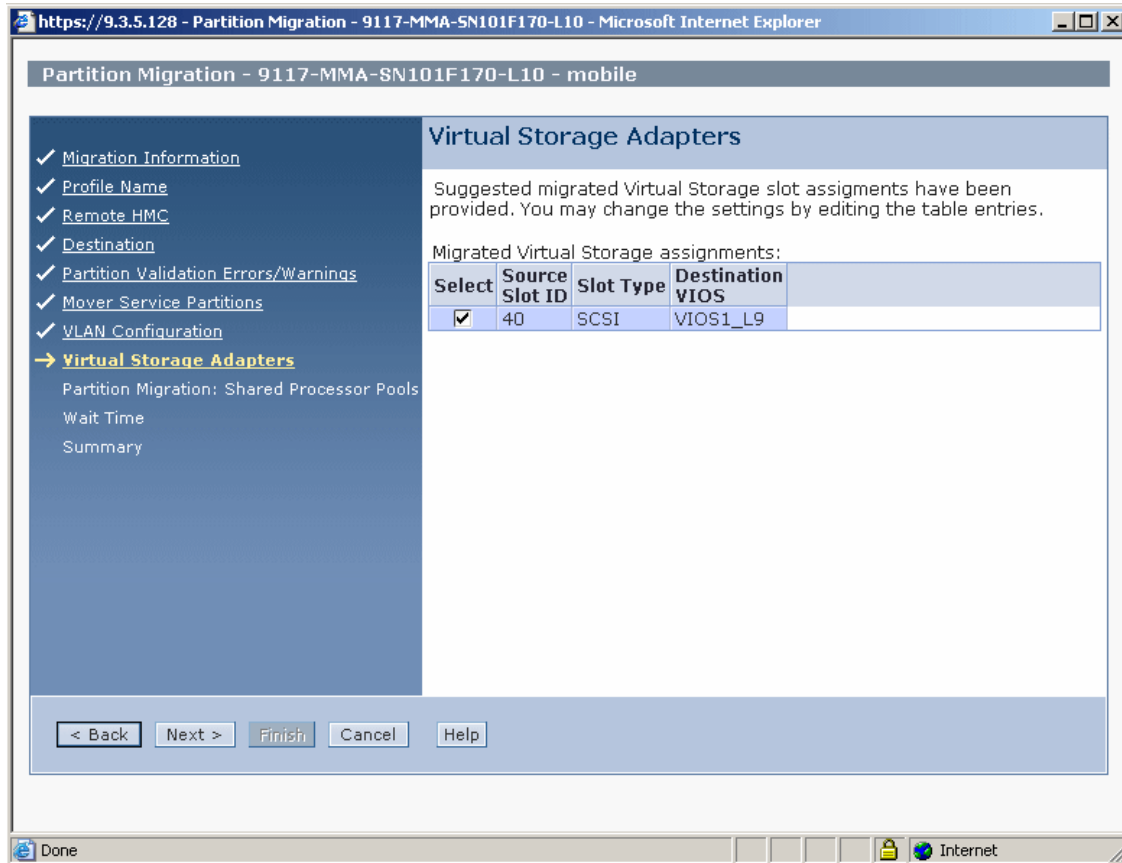

Figure 14-16 Selecting the virtual SCSI adapter
11. Select the virtual storage adapter assignment as shown in Figure 14-16.